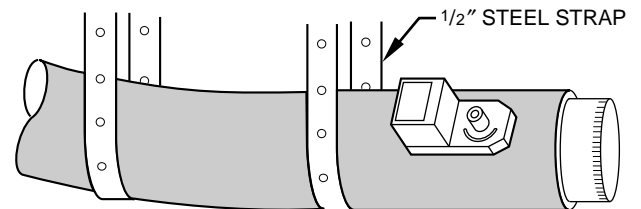

Fig. 9—Insulated Round Flexible Ductwork A95133
4. Insulate damper using 1-1/2-in. to 2-in. insulation. (Check your local codes.) (See Fig. 9.)